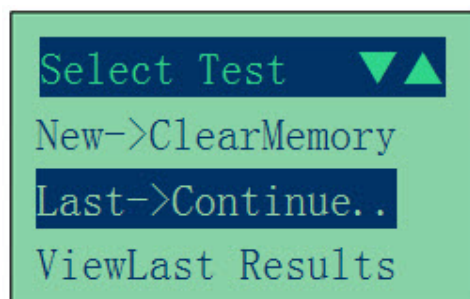

Figure 40
2. It will run through a self-test and when completed it displays the Main Menu as shown: (Fig. 40)